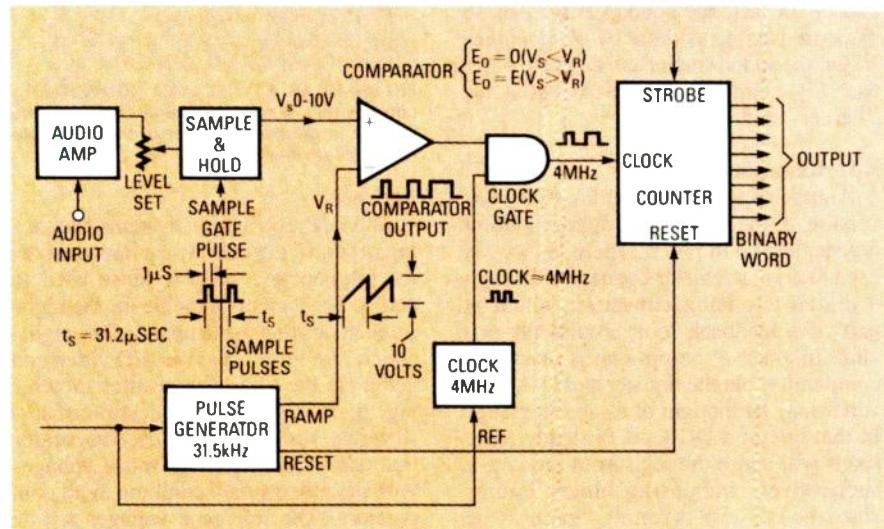

FIG. 3—A COMPARATOR can be used to digitize an analog signal at TTL levels.
Figure 3 shows how an audio signal can be digitized. The output from the audio amplifier is level-set for proper dynamic range, and then sampled every 31.2 microseconds (31.5 kHz rate). The analog value is stored in a sample-and-hold circuit until the next sample is taken; let us assume it may be any value between zero and ten volts. That analog level is then fed to one input of a comparator. The other comparator input is fed with a linear ramp (sawtooth) whose amplitude rises from 0 to 10 volts. (The ramp starts slightly after the sampling interval and ends just before the next audio sample is taken, because some time must be reserved for sampling and resetting the ramp to zero.) If the audio sample is relatively large (say 7 to 10 volts) in amplitude, the ramp will have to rise to that value before the comparator's output voltage will drop to zero. If the analog sample is small (say 1 volt), the comparator will drop to zero when the ramp exceeds one volt. (The comparator's output is a logic high (1) when  $V_S > V_R$ , it is a logic low (0) when  $V_S < V_R$ . Therefore, the comparator output is a train of pulses having a frequency of 31.5 kHz and a pulse width ranging from nearly zero to 30 microseconds (depending on the sample amplitude.)